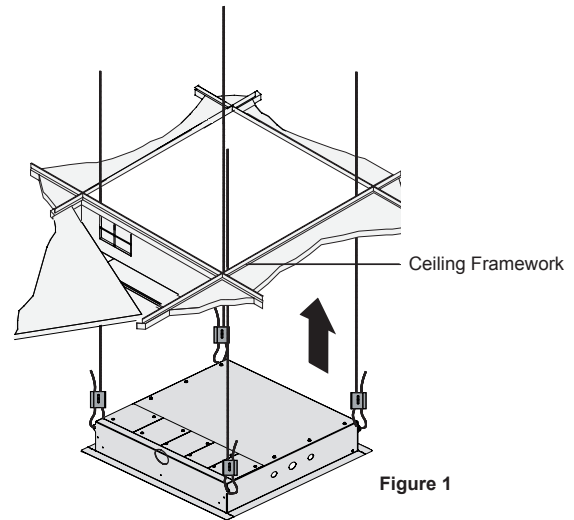

Figure 1
- 1) Lift the ceiling box from the exposed ceiling framework until the ceiling box's outer lip rests against the bottom of the ceiling framework (Figure 1).